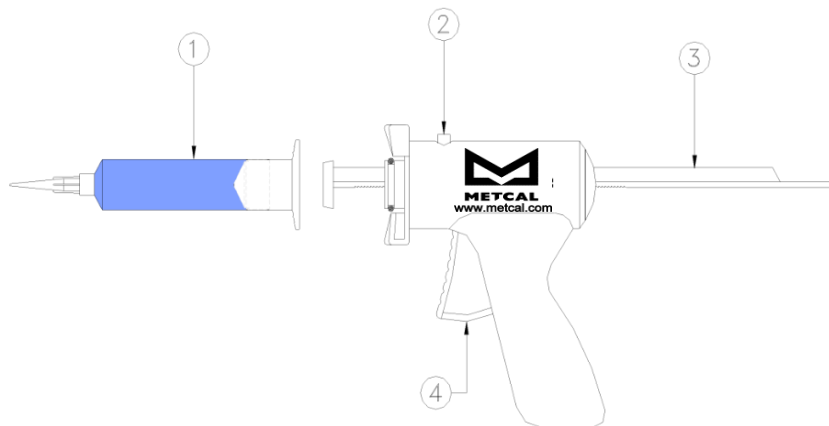

Figure 2
**SETUP INSTRUCTIONS:** (Refer to Figure 2)